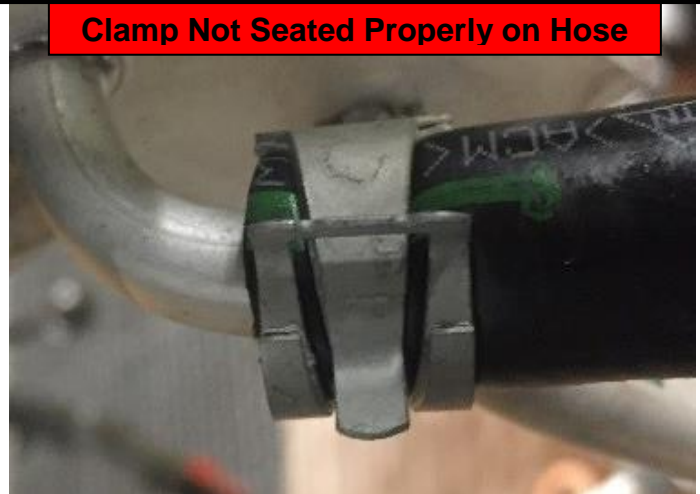

Figure 8
- Clamp not seated properly on hose (Too close to the end of the hose) (Figure 8).